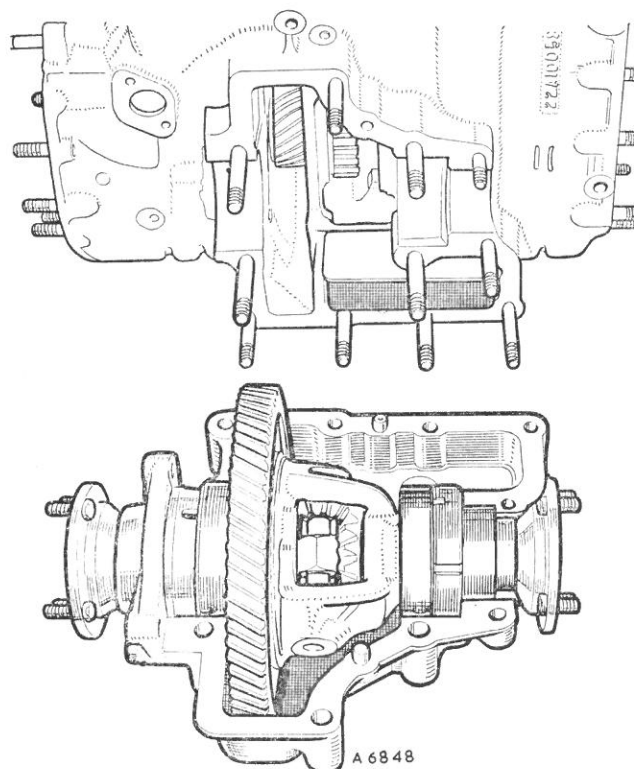

Fig. Fa.50
- (1) Remove the engine and transmission from the car (see Section Aa.3).
- (2) Drain the engine/transmission unit.
- (3) Use Service tool 18G 1100 to hold the driving flanges and remove the centre securing bolts. Withdraw the flanges from the splined shafts.
- (4) Knock back the lock washers and remove the nuts from the final drive housing.
- (5) Remove the securing screws and pull the kick-down linkage assembly clear of the transmission case.
- (6) Remove the two set screws securing the end cover to the transmission, and remove the final drive and housing assembly (Fig. Fa.50).
- (7) Remove the remaining securing bolts from the end cover and remove the cover and the adjustment shims.